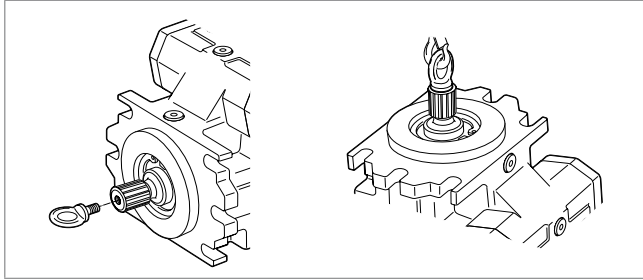

Fig. 7: Fixing the eye bolt
- ▶ Make sure that the eye bolt can bear the total weight of the axial piston unit plus 20%. You can hoist the axial piston unit as shown in Fig. 7 with the eye bolt screwed into the drive shaft.